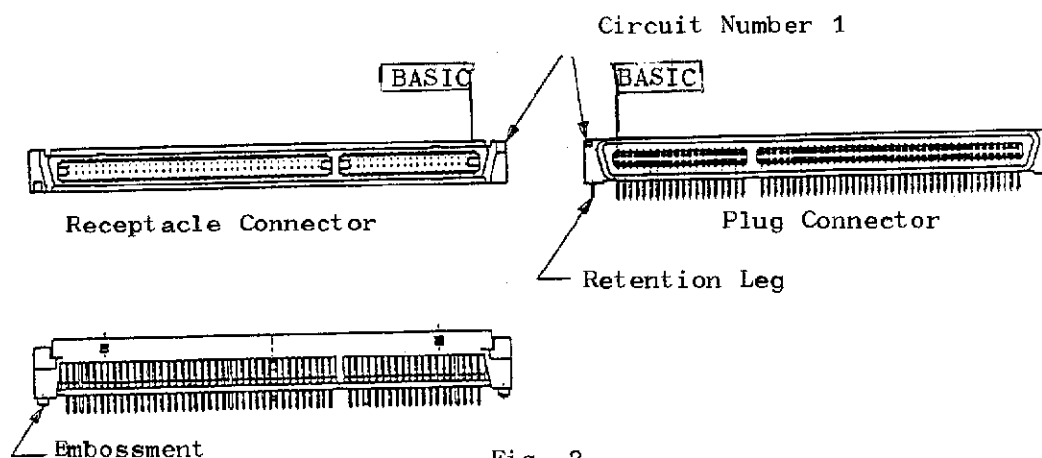

Fig. 2
- (1) For detailed layout of contact positions on PCB, refer to the applicable customer drawings. The customer drawings can be obtained from AMP local sales representatives of your area. PCB holes for applying contact tines must be fabricated accordingly as required.
- (2) Circuit numbering order should be confirmed on the respective connectors, with reference to the circuit number markings starting from No. 1 on BASIC side of the connector. See Fig. 2.